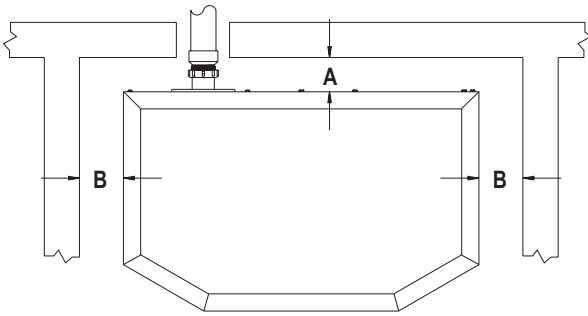

Figure 7
2. Provide adequate clearances around the product for servicing and ensure there are no obstructions to the combustion air intake situated at the back of the heater. Refer to Page 15, Figures 7 and 11.
**Note:** On Single Wall flue pipe installations (imitation zero clearance fireplace) a minimum of 2" (50.8cm) clearance must be provided at the rear of the heater to enable the heater to get sufficient combustion air to the air inlet located at the rear of heater. Refer to installation instructions on page 15, Figures 7 and 9.